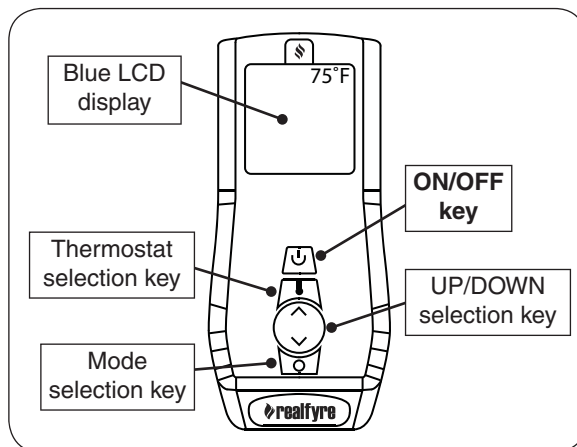

Fig. 41-4 Remote transmitter detail
3. Locate the remote transmitter and press the ON/OFF key (see Fig. 41-4). The ignition sequence will begin.